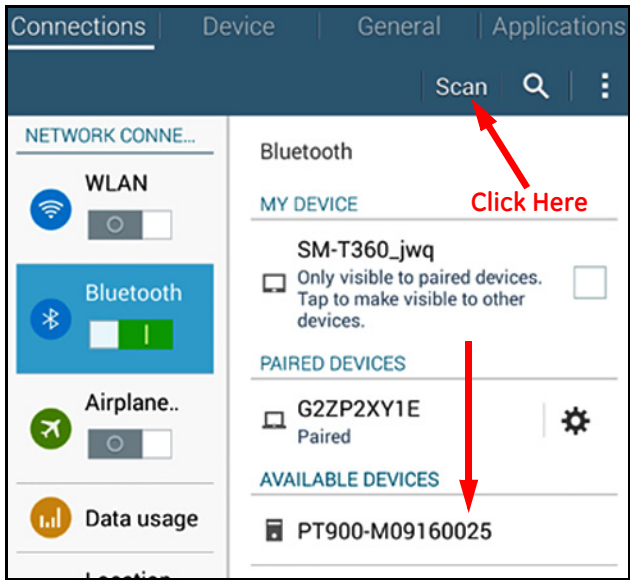

Figure 7: Available Devices List
3. After the APP finishes loading, the default *Transmitter* list is displayed. During initial installation, this list is empty. To connect to a new PT900 transmitter, click **SCAN** (see the red arrow in *Figure 7 on page 10*) and the APP will search for all available transmitters via Bluetooth.
4. After the scan has been completed, any new transmitters which were found are listed in the **AVAILABLE DEVICES** section of the tablet screen (see the red arrow in *Figure 7 on page 10*). Click on your transmitter to pair it with the tablet.